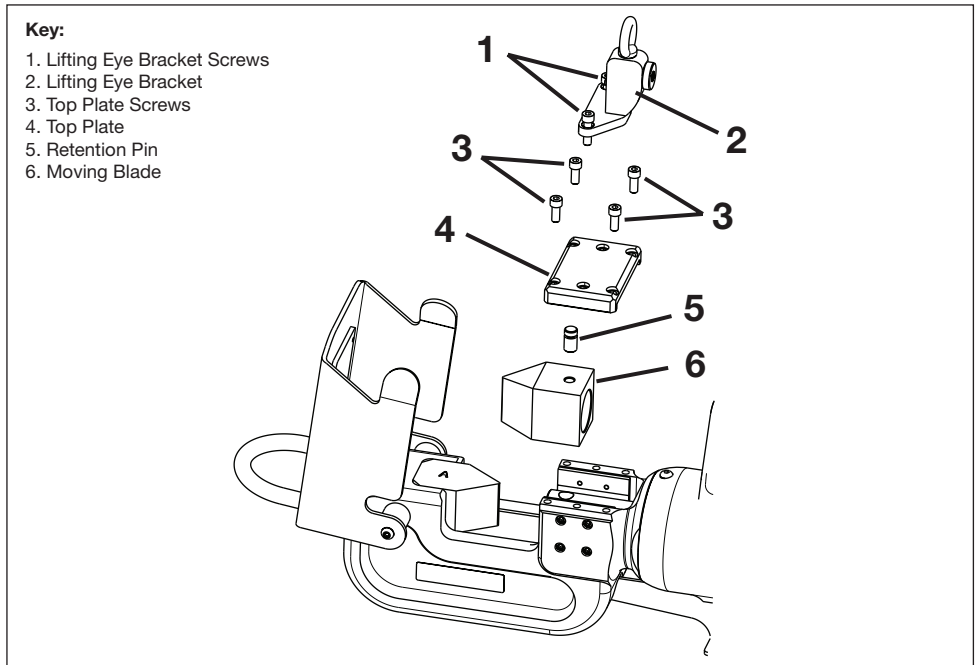

Figure 18, Moving Blade Replacement
Replace the moving blade as described in the following steps. Refer to Figure 18, items 1 through 6.